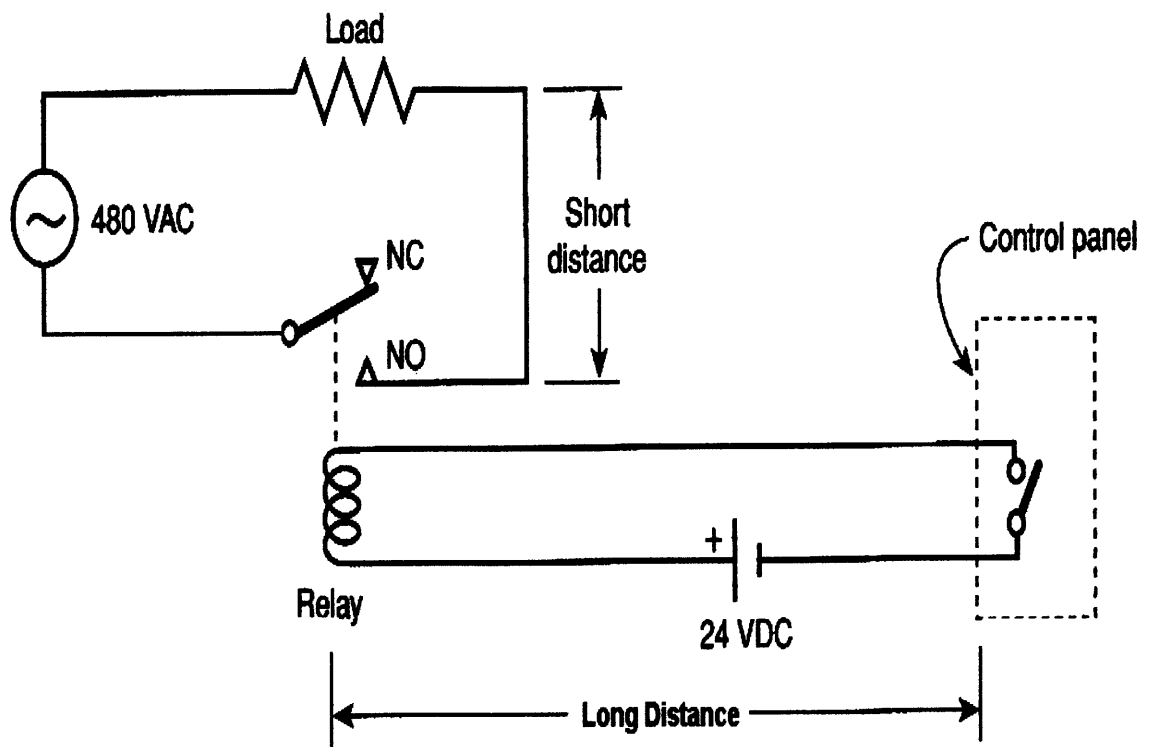

Figure Q1(b)
- (b) Based on Figure Q1(b):
- (ii) Give three (3) application of reed switch. (3 marks)